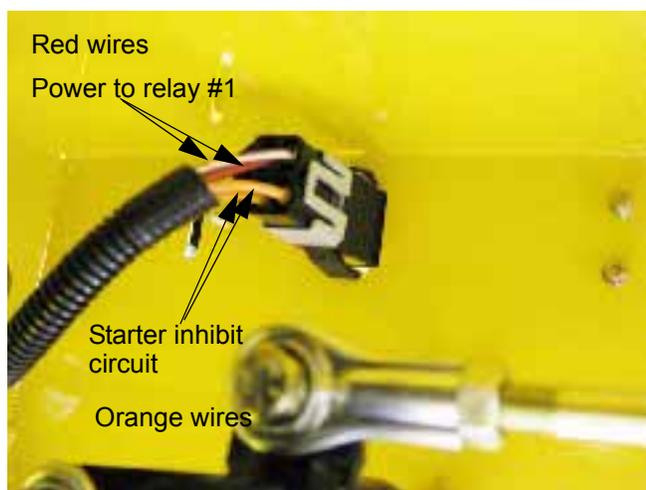

Figure 10.4
10.4. Inside the control housing, the squeeze the tabs to remove the switch. The harness connector may be separated either before or after the parking brake switch is removed from the control housing. See Figure 10.4.